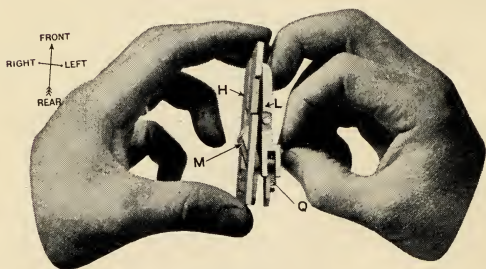

Figure 3.
21. Separate the top MOLD BLADE 12 from the MOLD-BLADE CARRIER 8 by lifting the top BLADE straight up. Remove the bottom BLADE 43 from the CARRIER 8 by pushing forward on the left end of the LATCH 46. (The method of doing this is shown in Fig. 3.)
32. Assemble the BLADES 43 and 12 on the CARRIER 8. To put the lower BLADE 43 onto CARRIER 8, push forward on the tail of the LATCH 46 just enough to slip the MOLD BLADE 43 into position over the front end of the LATCH 46. (See also Fig. 3.) Be sure the BLADE 43 and CARRIER 8 are flush on the bottom. Then put the top BLADE 12 on the CARRIER 8, working it carefully into position with the fingers and be sure it is perfectly flush on both sides with the lower BLADE 43.